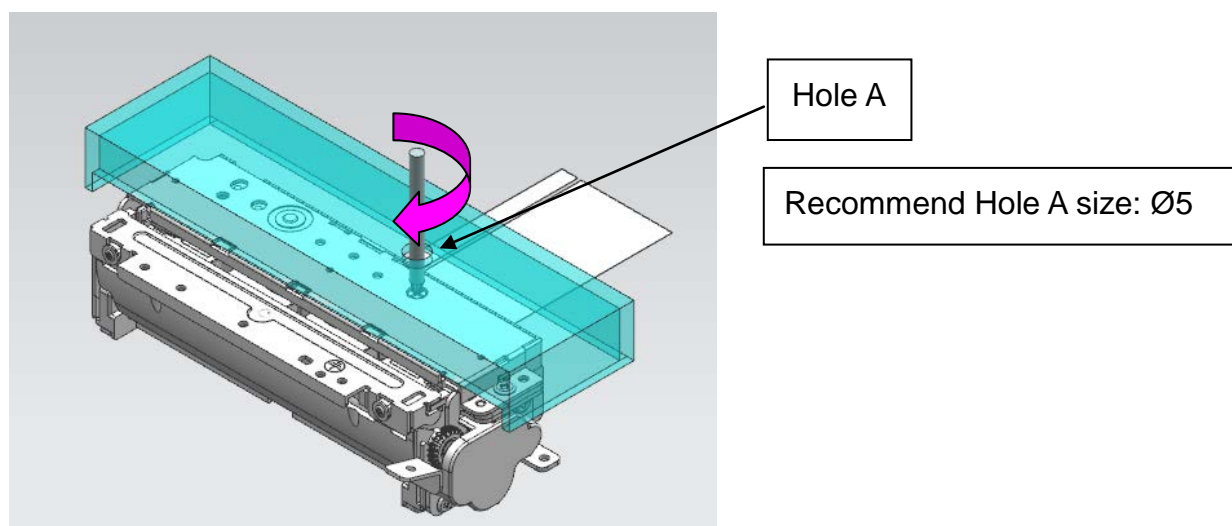

Fig 10-1 Recommended size of holes in outer case
- When the cutter jam occurs, turn the hand driver in the direction of the arrow shown in Fig 10-1 until it does not turn anymore to resolve the problem. It will not turn anymore when the problem is resolved. (Number of turns: Max.1.2 turns)